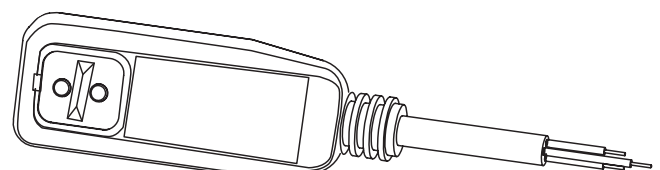

Fig. 43
1. Plug ground-fault-circuit-interruptor (GFCI) into a power outlet: the indicator should turn on (Fig. 43).